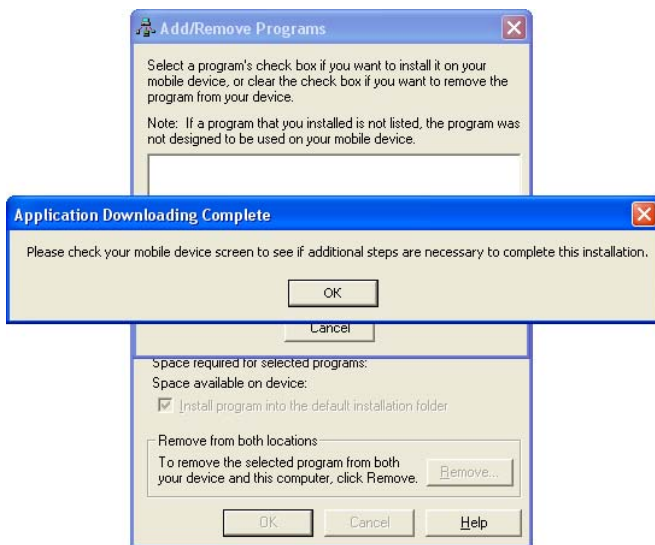

Figure 58. MicroSMC for WM Mobile Device installation 2nd screen
- Press "OK" button to finish installation process (see Figure 58)